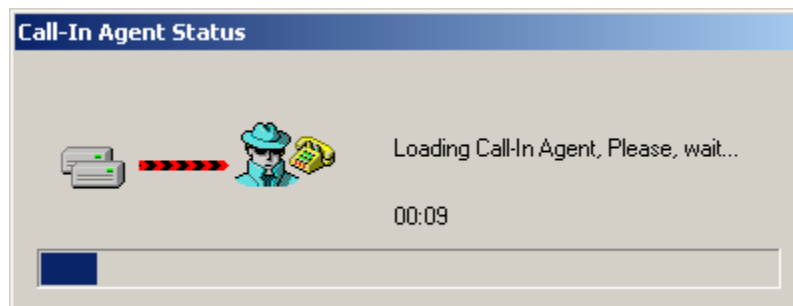

Figure 9.45. Call-in Agent Loading
2. As the Call-in Agent loads, a progress window appears, as shown in **Figure 9.45**.